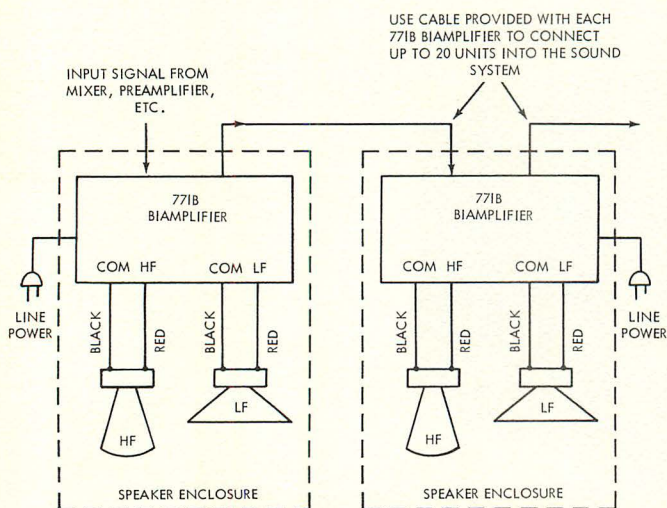

Figure 2. Speaker Hookup and 771B Interconnections
Each 771B is provided with an interconnecting cable to combine an additional 771B into the sound system. Up to 20 of the 771Bs may be connected into a single sound system in this manner. Speaker hook up and parallel multiple-system interconnections are shown in Figure 2. The input signal cable is plugged into the FROM MIXER PREAMPLIFIER jack. The next 771B is connected in parallel by plugging the provided interconnecting cable into the TO ADDITIONAL POWER SPEAKER jack on the first 771B and into the FROM PREAMPLIFIER jack on the second 771B. Continue this interconnection method to combine as many 771Bs as required (up to 20 units).
- Step 5. Install supplied speaker wires on speakers and biampifier speaker terminals (see Figure 2). Note that minimum speaker impedance is eight ohms.
- Step 7. Insert biampifier in cutout and secure it to 'T' nuts with six (6) 8-32" x 1-1/4" screws (supplied).